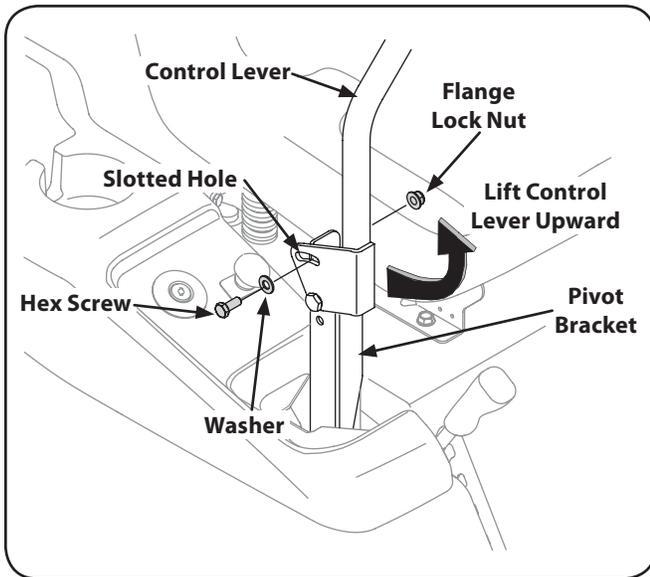

Figure 3-7
- Lift and swing that control lever upward until the slotted hole in the lever bracket aligns with one of the holes in the pivot bracket. See Fig. 3-7.
- Slide the flat washer onto the hex screw. From the outside, insert the hex screw with washer through the control lever slot and the hole of the pivot bracket. Secure with the flange lock nut. See Fig. 3-7.